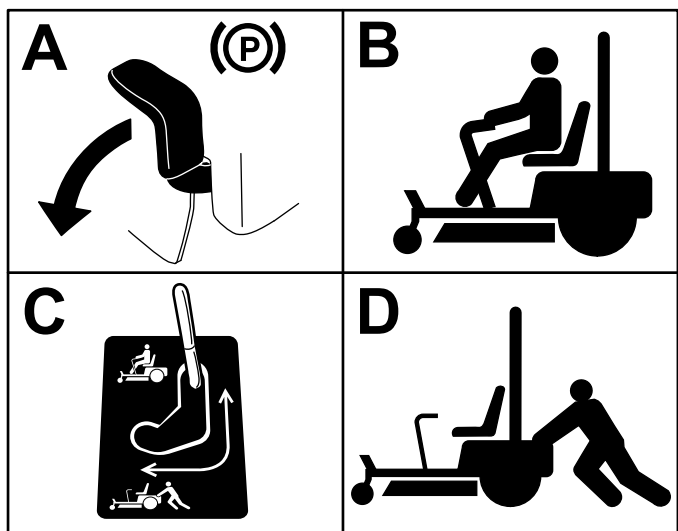

Figure 38
3. To push the machine, move the bypass levers rearward and out to lock them in place as shown in Figure 38.